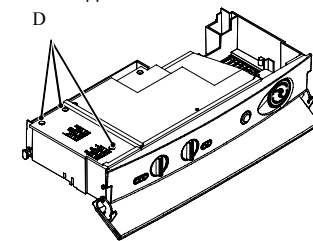

Fig. 6.6
- 4 Loosen the screws D and remove the service panel (Fig. 6.6).